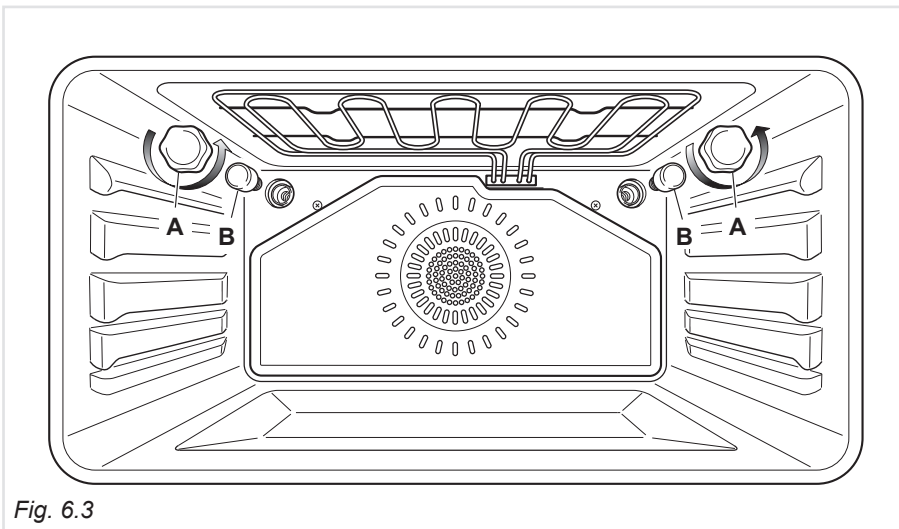

Fig. 6.3
REPLACING THE OVEN LIGHT (fig. 6.3)
- Remove the protective cover "A" (fig. 6.3).